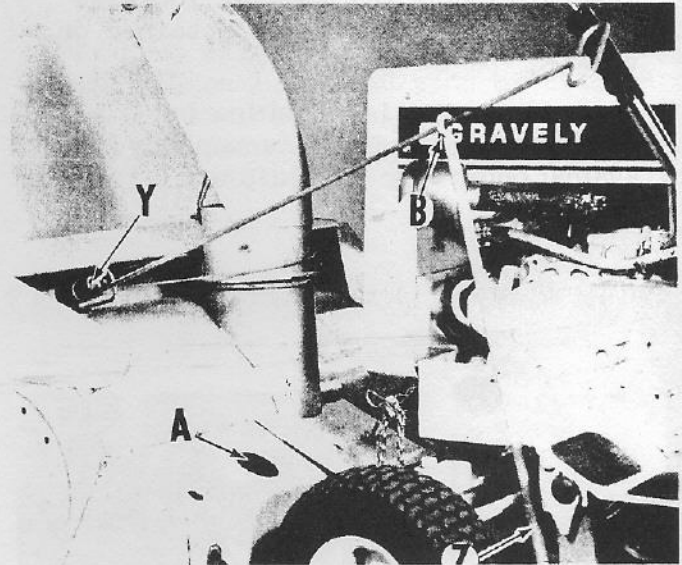

Fig. 16
Thread stack control rod hook into eye bolt (Y) as illustrated (Fig.16)